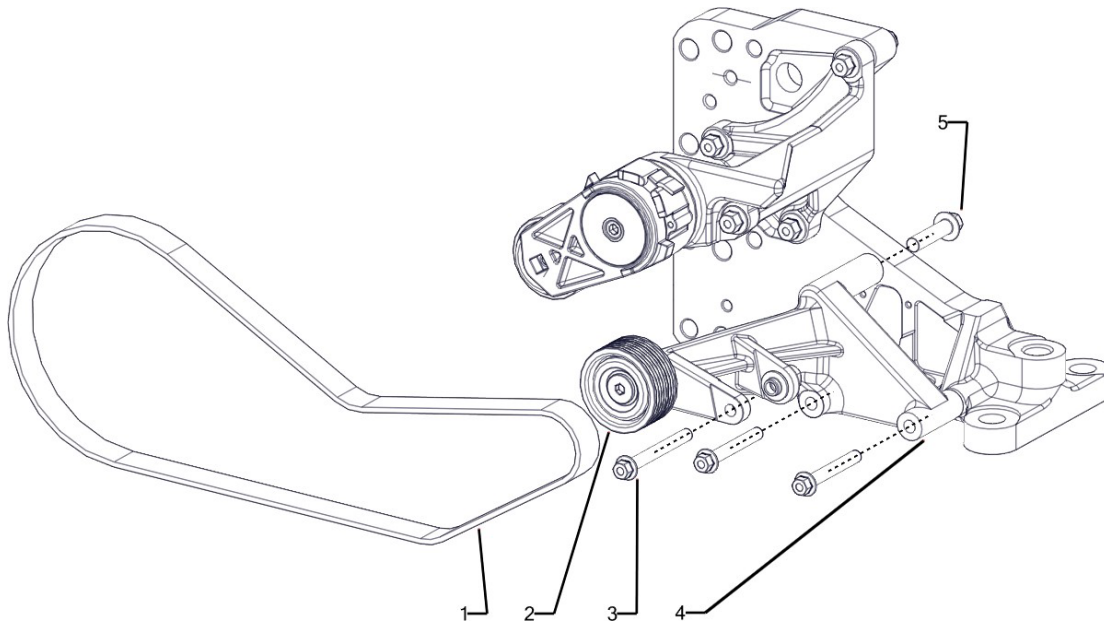

Figure 15. Left-Hand Idler Pulley Assembly
1. Loosen serpentine belt if not already loose (Figure 15, item 1).
2. Remove bolts (Figure 15, item 3) and rear bolt (Figure 15, item 5).
3. Remove the left-hand Idler pulley bracket (Figure 15, item 4).
1. Place the left-hand idler pulley bracket (Figure 15, item 4) onto the engine mount bracket.
2. Insert and torque down the bolts (Figure 15, items 3 and 5).
3. Insert the serpentine belt (Figure 15, item 1).